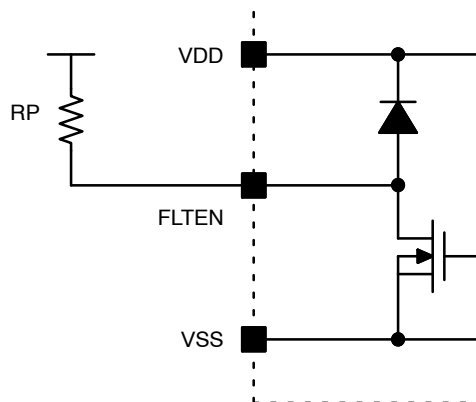

Figure 21. Fault Connection
The FLTEN pin is an active low output (open-drain output). It is used to indicate an internal fault condition of the module. The structure is shown in Figure 21. The sink current of IoSD during an active fault is nominal 2 mA @ 0.1 V. Depending on the interface supply voltage, the external pull-up resistor (RP) needs to be selected to set the low voltage below the VIL trip level.